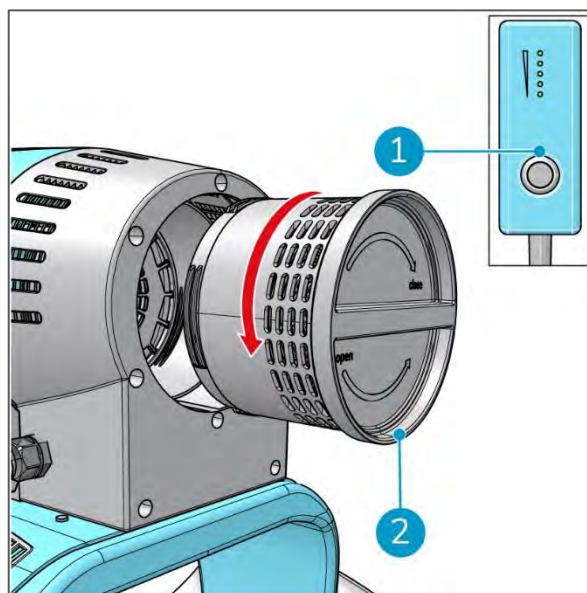

Figure 24
1. Turn off the i-move 2.5B® with the ON/OFF switch (Figure 24, pos 1).
3. Turn the filter housing (Figure 24, pos 2) counterclockwise to remove it from the bottom of the i-move 2.5B.
6. Turn the filter housing (Figure 24, pos 2) clockwise to replace it in the bottom of the i-move 2.5B.
10. Turn the filter housing (Figure 24, pos 2) clockwise to replace it in the bottom of the i-move 2.5B.